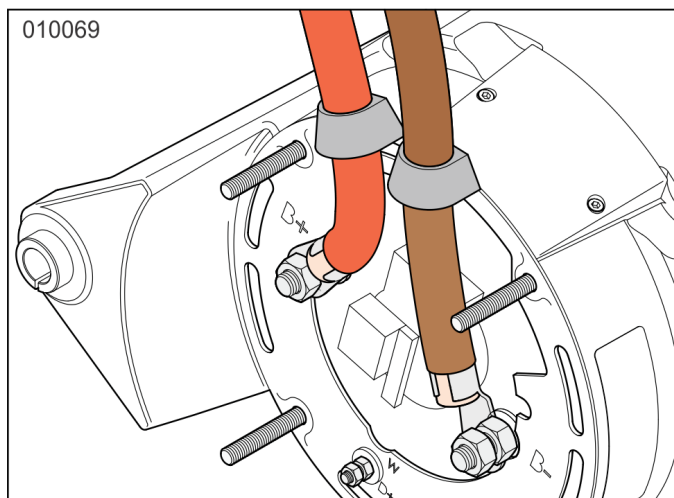

Figure 7
- 10) Install the ground cables on both alternators. Route the ground cables so that they will pass afterwards through the right hole of the protective cover. Re-tighten the terminal nut of the ground cables to a torque of 6.6 to 9.6 ft.lbf (9 to 13 Nm) (Figure 7 shows upper alternator).